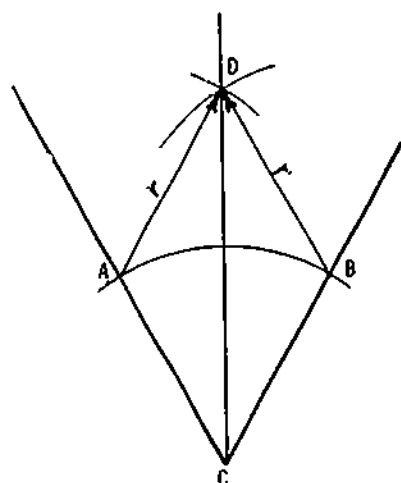

Figure 5-13. Bisecting an Angle
**Bisect an angle** Given the angle, strike an arc from centre C using any convenient radius to locate A and B (Figure 5-13). Draw equal arcs from A and B to locate D. Join CD to bisect the angle.